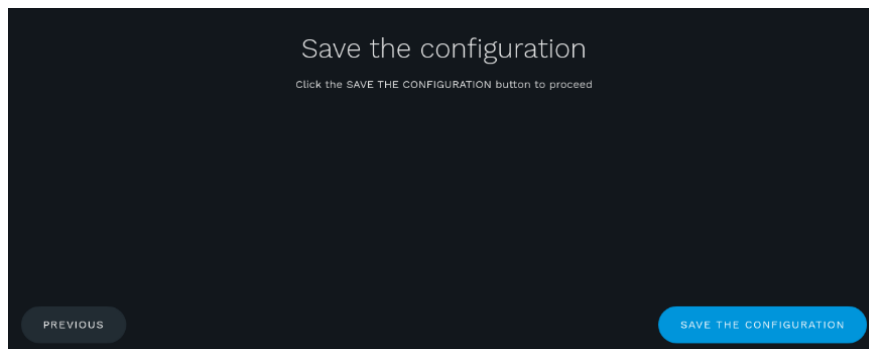

Fig. 21 - Save configuration
10. Save the configuration (Fig. 21).